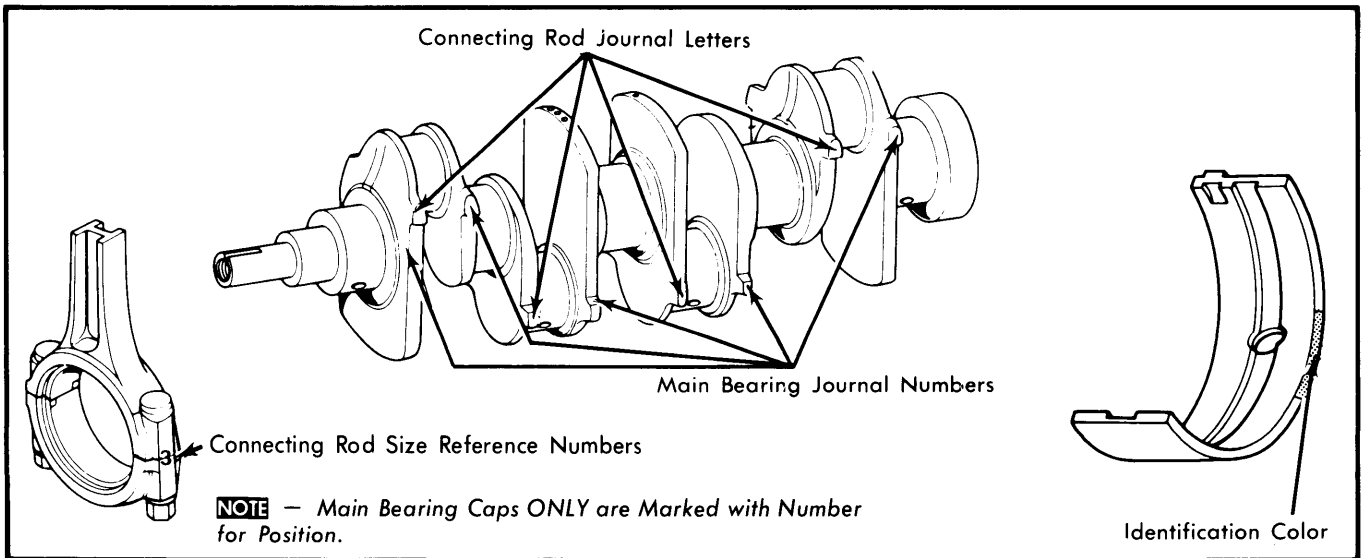

Fig. 8 Connecting Rod Bearing & Cylinder Block Identification Locations
5) The 1751 cc engine has Roman numerals stamped on a pad at flywheel end of engine block indicating each crankshaft bore dimension. The 1487 cc engine has the letters "A", "B", "C", or "D" stamped on a pad at flywheel end of engine block, also indicating each crankshaft bore dimension. The 1335 cc engine block has letters stamped on pads near contact surfaces of block, indicating each main bearing bore dimension. See Fig. 8.